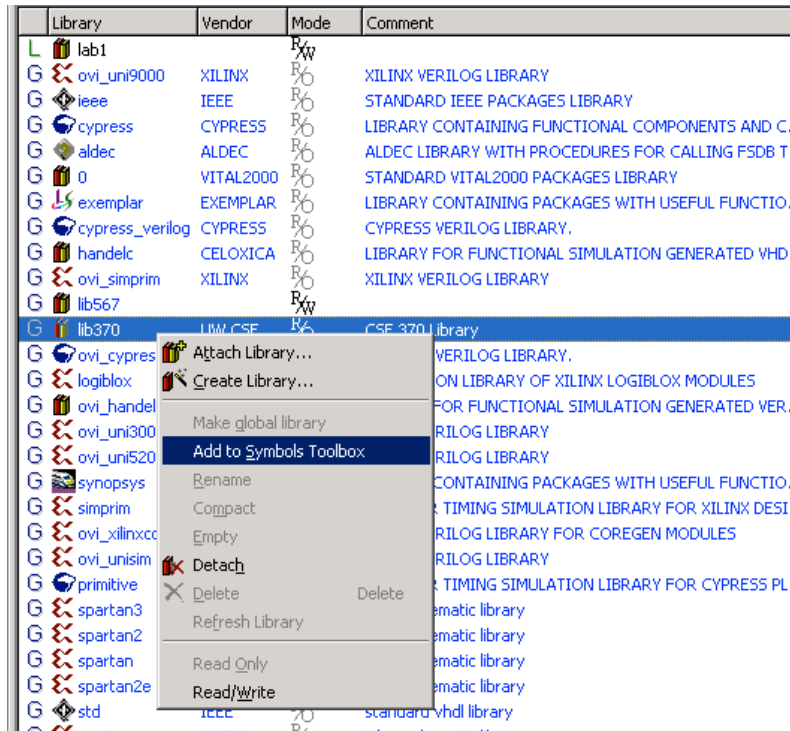

Figure 12
2. Locate the lib370 library in the left frame of the main window, and right click it (Figure 12).